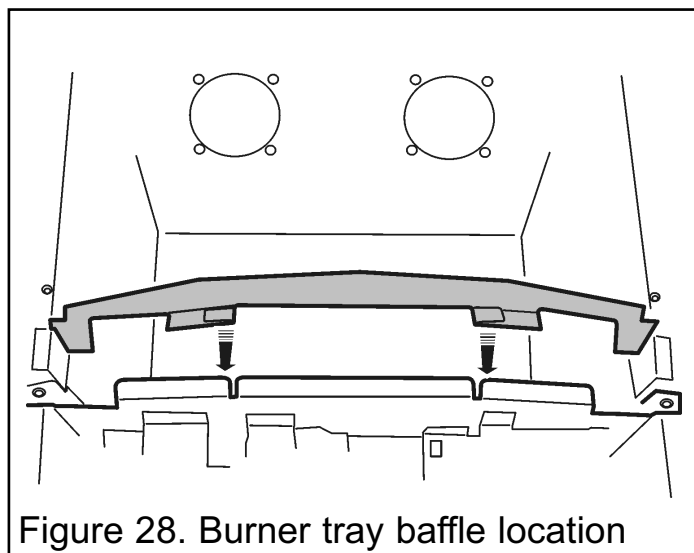

Figure 28. Burner tray baffle location
5. **Dream, Petrus and Trueflame only** - Fit the burner baffle to the front flanges of the burner. To do this, locate the tags on the baffle over the front flanges of the burner and lower into position (See figure 28).